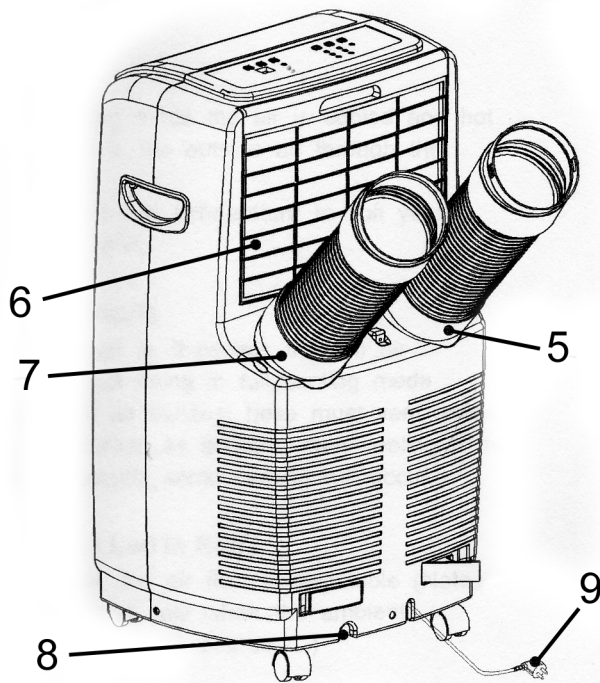

Fig. 1
**Note:** Air outlet hose should be mounted at right side (see fig. 1)